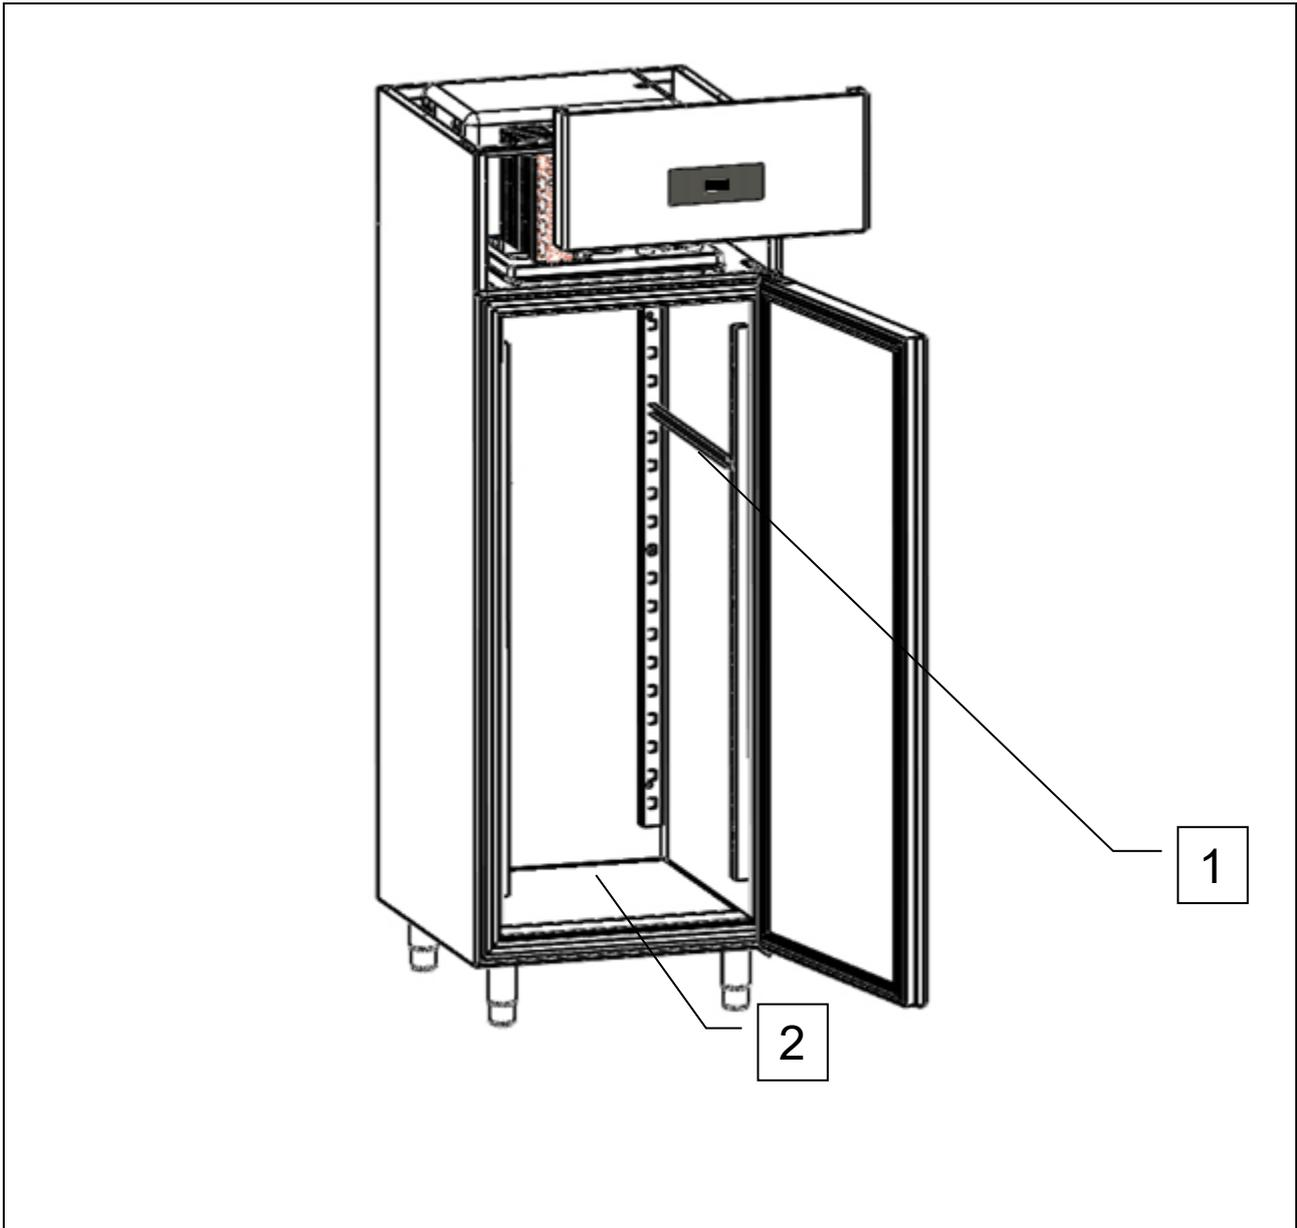

Fig. 1
- with any food products (food or drinks) placed close to the internal ventilation grilles (ref. 1, fig. 1) or directly on the cabinet floor (ref. 2, fig. 1).
The appliance identification plates (as shown in fig. 1 below) of all EN “Delice” series cabinets are to be found on the outer right side panel at the bottom front edge (near the door). This position remains the same whether the cabinet has 1 or 2 doors.